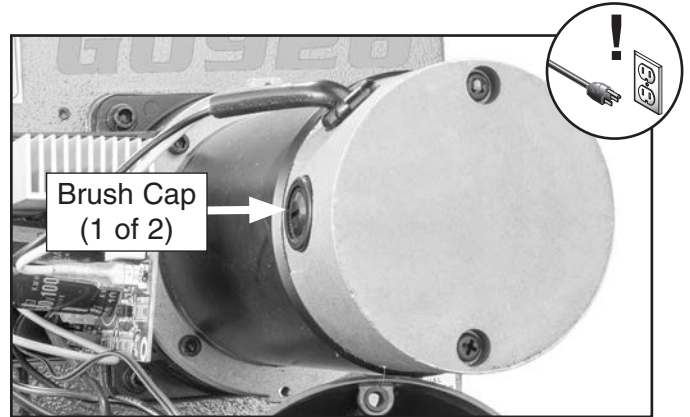

Figure 44. Motor brush cap location.
3. Remove brush caps (see **Figure 44**) and worn brushes from motor.